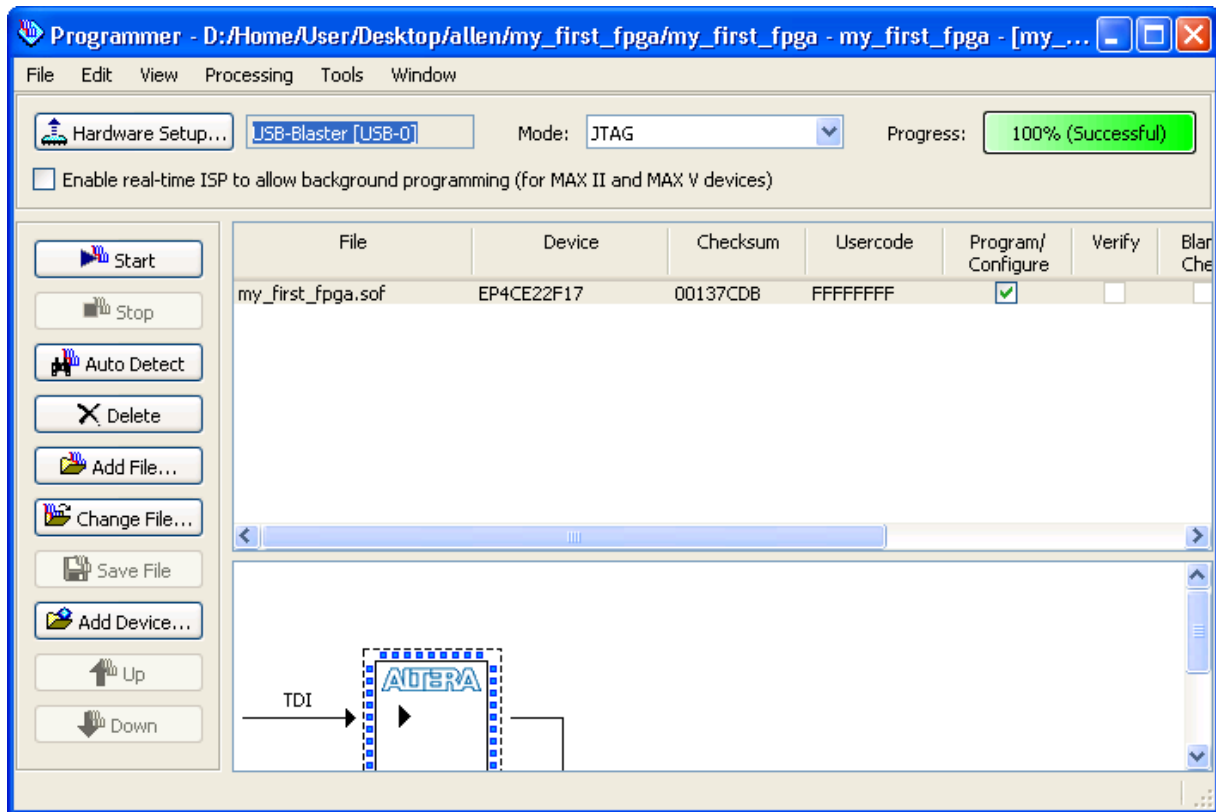

Figure 6-48 Downloading Complete
6. Select the **my_first_fpga.sof** file from the project directory (see Figure 6-48).